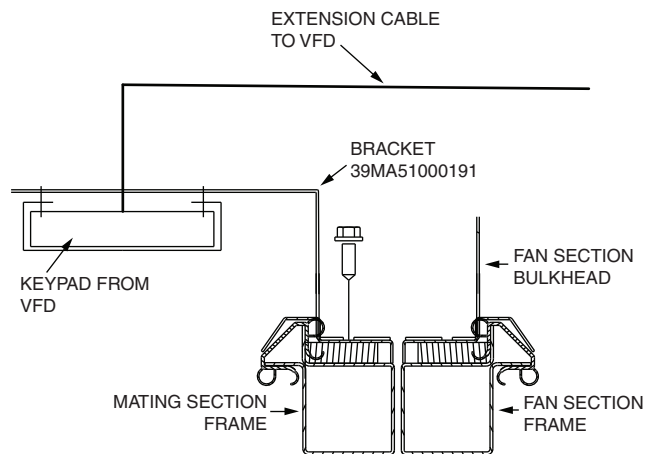

Fig. 186 — Remote Keypad Assembly Location
2. If VFD(s) is mounted on fan bulkhead panel at a shipping split, then the VFD remote keypad assembly is shipped inside the fan section. See Fig. 186.